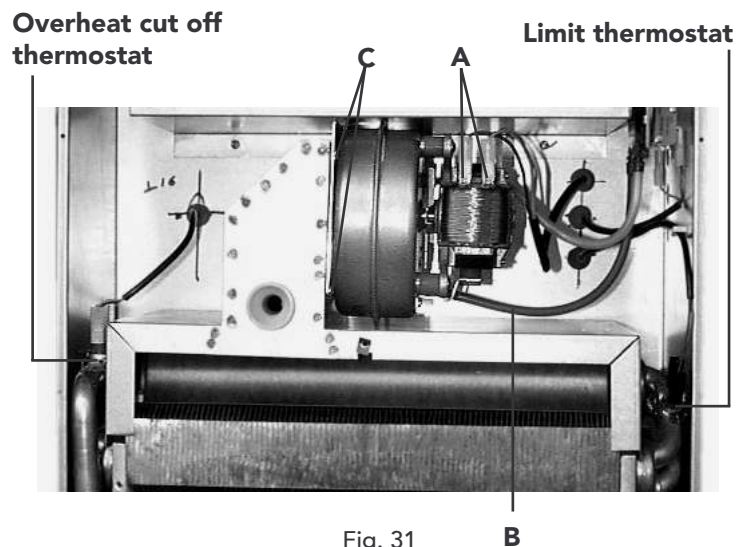

Fig. 31
## 7.11 Removal of fan (fig. 31)
## 7.12 Limit thermostat, or overhear cut off thermostat (fig. 31)
- Identify the location of thermostat from fig. 31